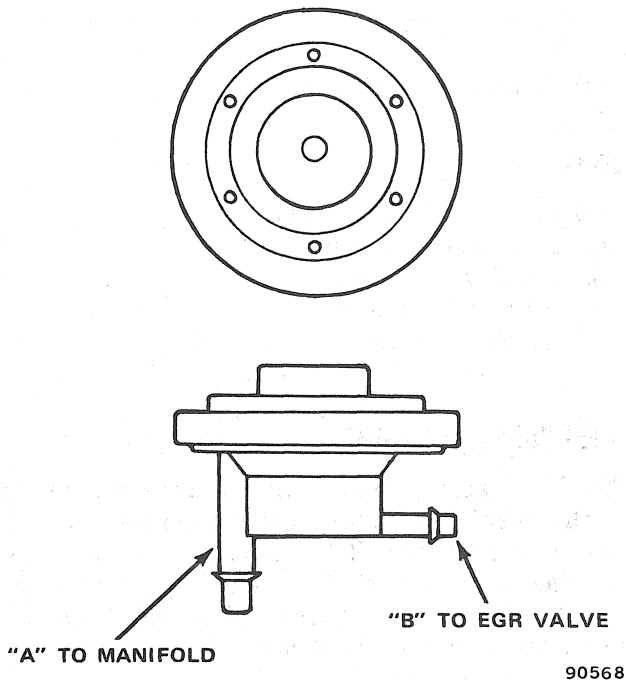

Fig. 1J-147 EGR Vacuum Dump Valve
- (1) Connect manifold vacuum hose to port “A” (fig. 1J-147).
- (2) Connect EGR valve vacuum hose to port “B” (fig. 1J-147).